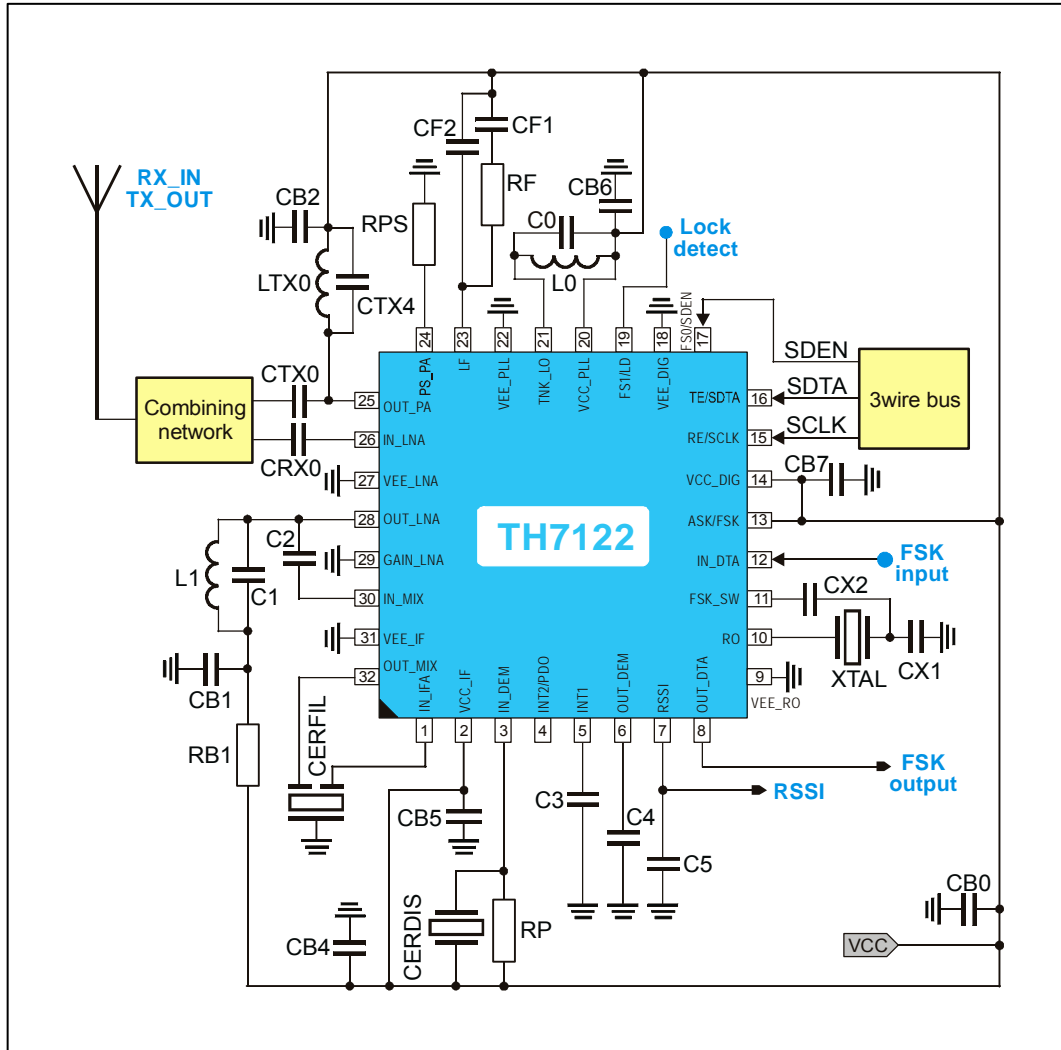
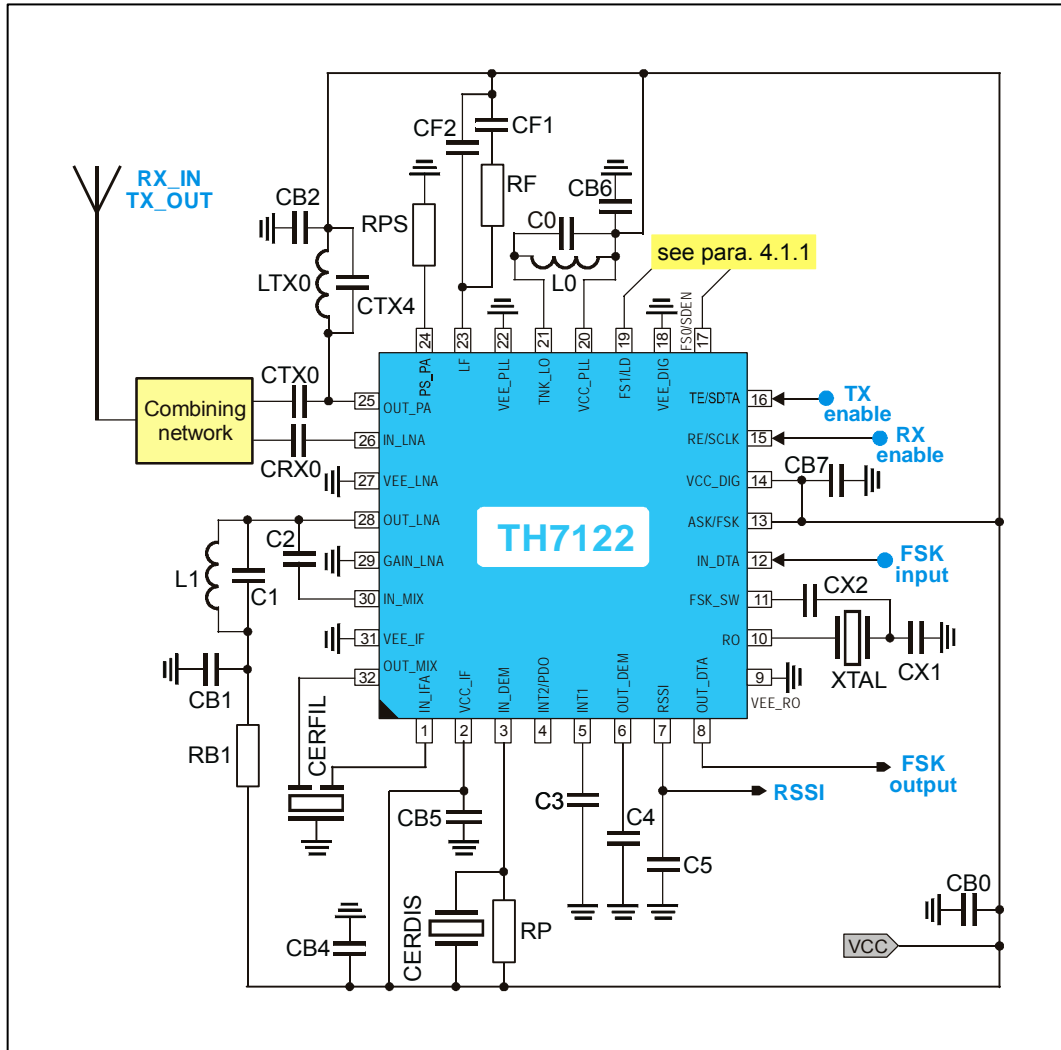
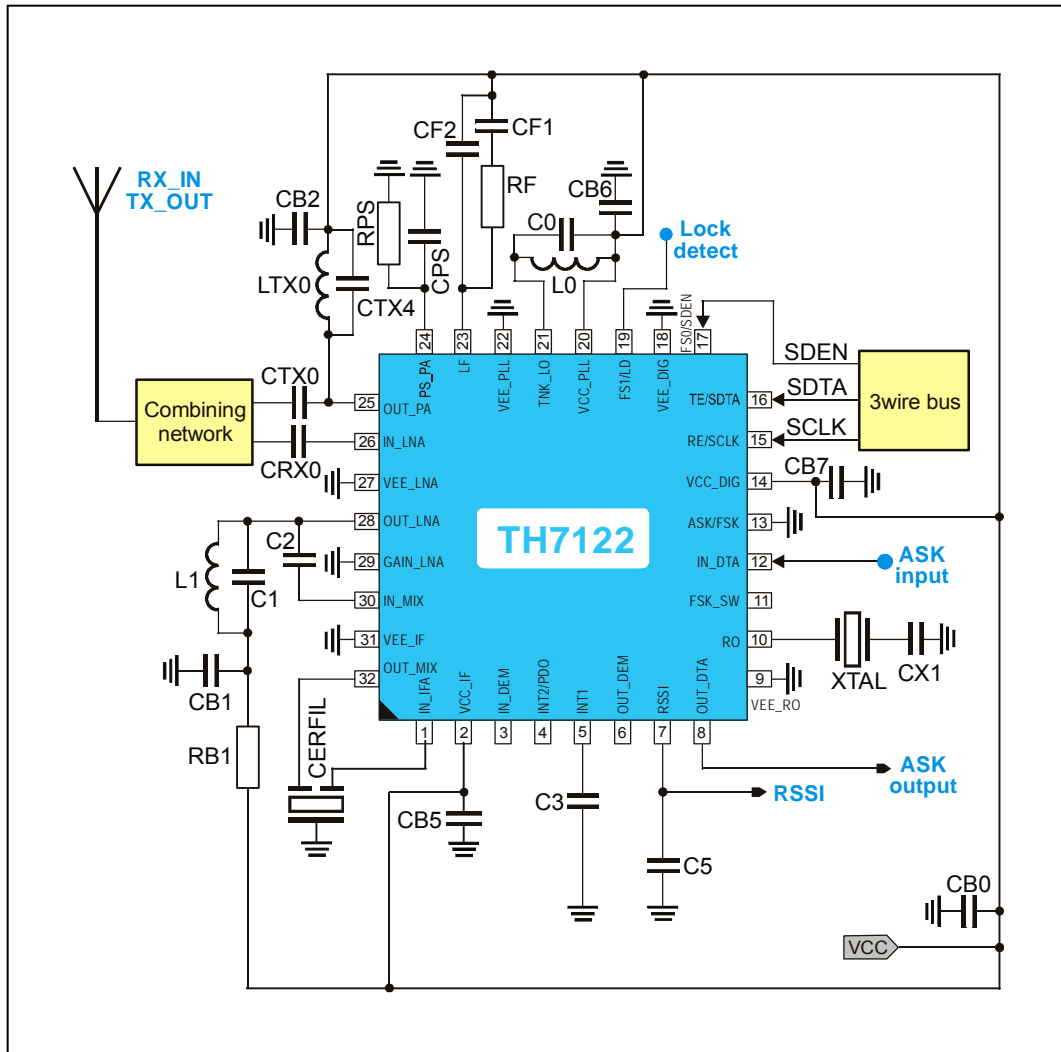

Fig. 14: Test circuit for FSK operation in Programmable User Mode (internal AFC option)
Fig. 15: Test circuit for FSK operation in Stand-alone User Mode
Fig. 16: Test circuit for ASK operation in Programmable User Mode (normal data slicer option)
all parameters under normal operating conditions, unless otherwise stated; all parameters based on test circuits for FSK (Fig. 14 to 15) and ASK (Fig. 16 to 17), respectively;
all parameters based on test circuits for FSK (Fig. 14 to 15) and ASK (Fig. 16 to 17), respectively;
7.3 FSK Test Circuit Component List (Fig. 14 and Fig. 15)
7.5 ASK Test Circuit Component List (Fig. 16)